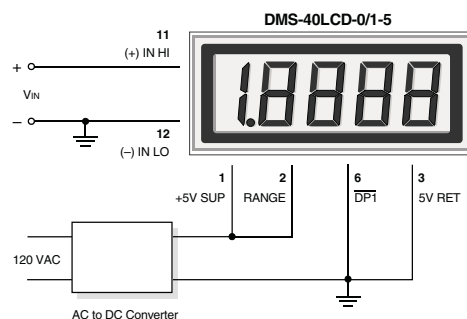

**Figure 2. Single-Ended Input Configuration
- 1. Single-Ended Input Configurations:** True single-ended measurements can only be made with 5V-powered meters. The circuit of Figure 2 avoids problems normally associated with ground loop currents. Separate ground runs should be used for 5V RETURN (pin 3) and (–) INPUT LO (pin 12).